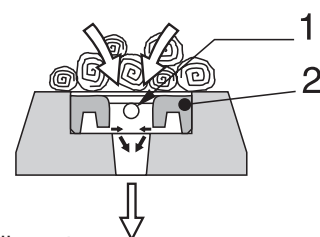

fig. 5
Furthermore the main refractory stone has a rectangular seat in which the opportunely grooved cast iron fire bars are placed (fig. 5, pos. 2), which receive the secondary air from a front distributor.